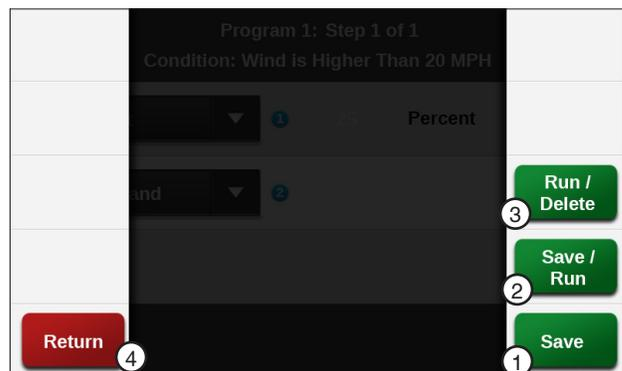

Figure 119-4 1. Save 2. Save/Run 3. Run/Delete 4. Return
1. Finish the program by selecting one of the following. Refer to Figure 119-4.